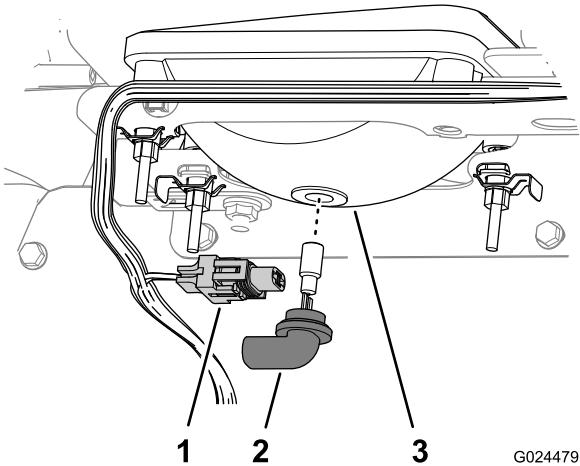

Figure 49
3. Disconnect the electrical connector for the harness from the connector of the lamp assembly at the back of the headlight housing (Figure 49).
4. Rotate the lamp assembly 1/4 turn counterclockwise and moving it rearward, out of the headlight housing (Figure 49).
5. Insert the new lamp assembly and headlight housing and align the tabs in the lamp assembly with the slots in the headlight housing (Figure 49).
6. Secure lamp assembly by turning it 1/4 turn clockwise (Figure 49).
7. Connect the electrical connector for the harness to the connector of the new lamp assembly (Figure 49).